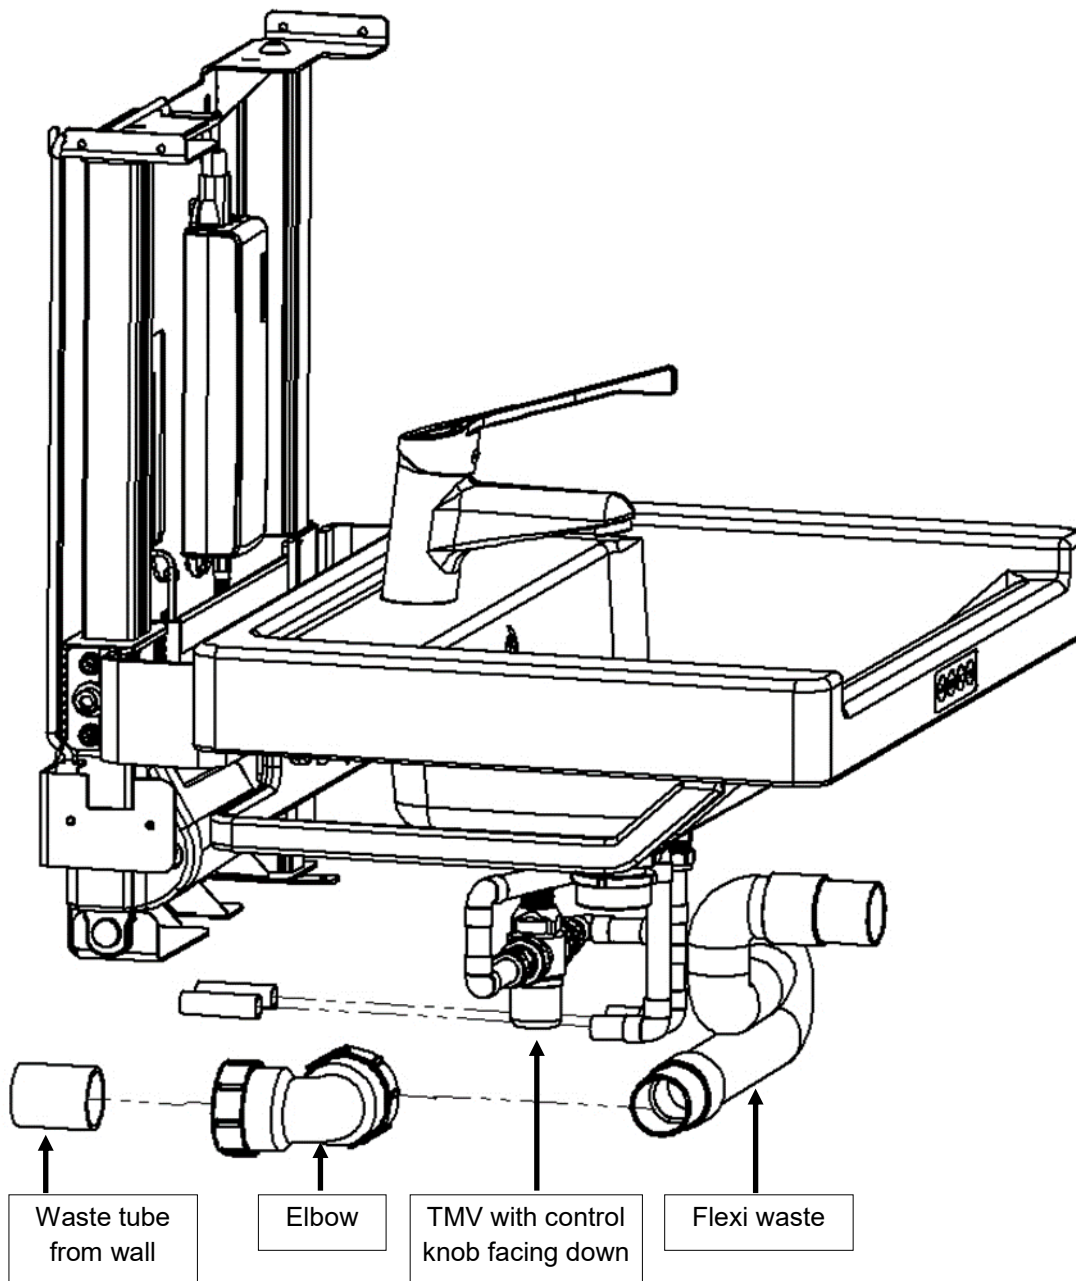

Figure 16 Plumbing and control
1. Add the provided 90 degree 1.5" elbow to the end of the waste tube coming from the floor or wall (see Figure 16)
2. Attach provided flexible waste hose to the elbow 90 degree 1.5" elbow; this is a tight fit and you may need to chamfer the end of the waste hose to give a lead in (Figure 16)
3. Fit the TMV assembly with the TMV control knob FACING DOWN (Figure 16)